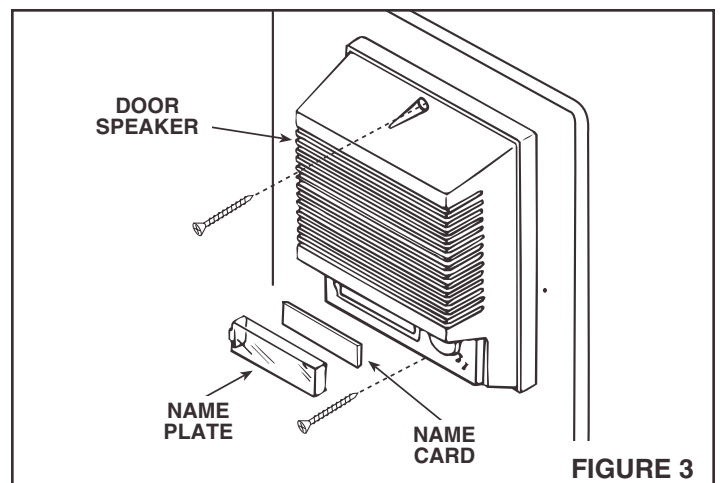

FIGURE 3
3. Use two supplied screws through bosses to mount speaker to surface. Use anchors (not supplied) if necessary. See Figure 3.
4. Remove nameplate and name card from Door Speaker. Write name on card and insert into nameplate. Snap nameplate into place. See Figure 3.